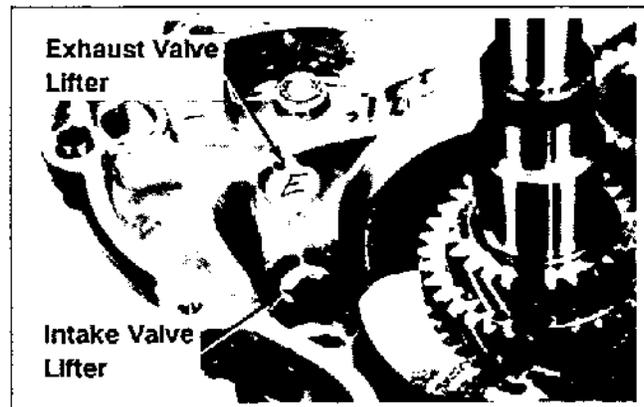

Figure 9-39. Identifying Hydraulic Lifters.
2. Mark or identify the hydraulic lifters as either intake or exhaust. See Figure 9-39. Remove the lifters from the crankcase.